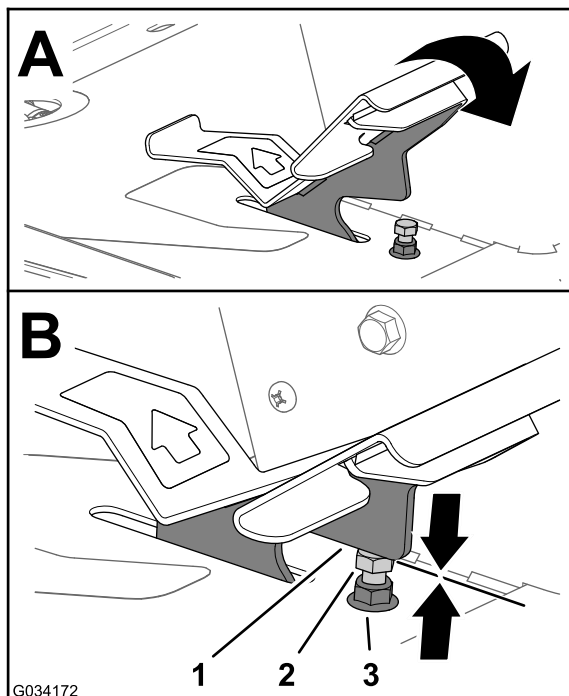
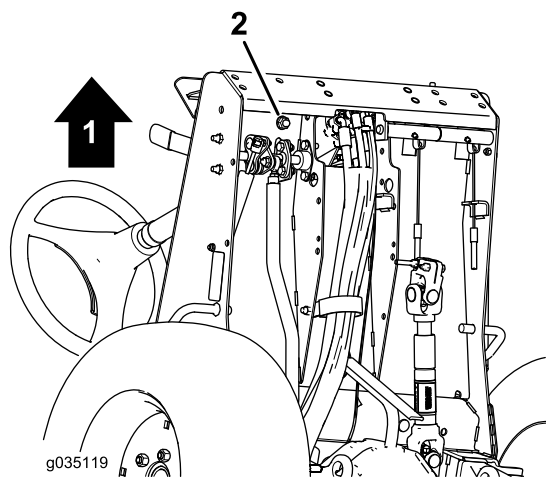

Figure 80
Figure 81
1. Move the traction pedal fully forward (Figure 80).
- A. Hold the traction-pedal stop (Figure 80) with a wrench.
- B. Loosen the jam nut at the bottom of the foot-rest plate (Figure 81).
- C. Move the traction pedal to the full forward position (Figure 80).
- D. While holding the traction-pedal stop, adjust the jam nut that is above the foot-rest plate (Figure 80) until the traction pedal makes contact with the stop.
- F. While holding the traction-pedal stop, torque the jam nut at the bottom of the foot-rest plate (Figure 80 and Figure 81) to 37 to 45 N·m (27 to 33 ft-lb).